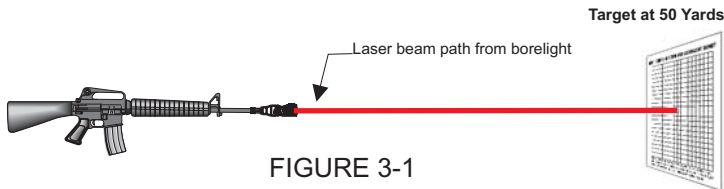

FIGURE 3-1
1. The borelight, when properly aligned in the weapon barrel, projects a laser point on the target that is in line with the axis of the barrel. In other words, the laser light travels in a straight line from the barrel of the weapon to the target. See Figure 3-1 below.